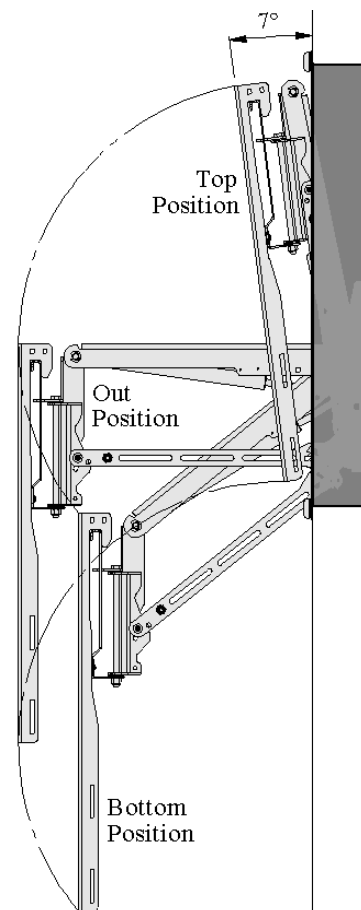

**Figure 1, Mount Overall Size, Television Mounting Hole Pattern Range, Wall Mounting Hole Pattern Range**
- **Note for smaller televisions;** the mount may be wider or taller than the television. If this is the case then the mount may be visible in the top position. See Figure 1
- Allowable television mounting pattern: 6.7" (170mm) to 27.2" (692mm) wide, up to 22.8" (579mm) high. Works with all VESA patterns in that range, See Figure 1
- Product Dimensions: 29.0 x 27.75 x 5.8 inches. See Figure 1